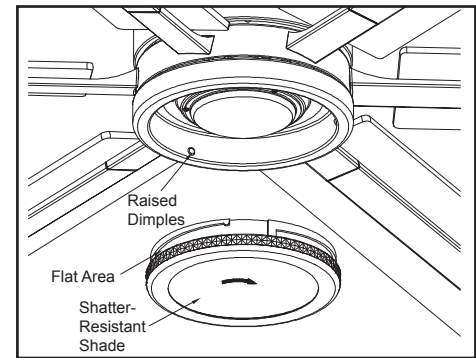

Figure 17
5. Place the shatter-resistant shade into the light kit pan, aligning the three flat areas on the top of the shatter-resistant shade with the three raised dimples in the light kit pan. Turn the shatter-resistant shade clockwise until it stops. (Figure 17)